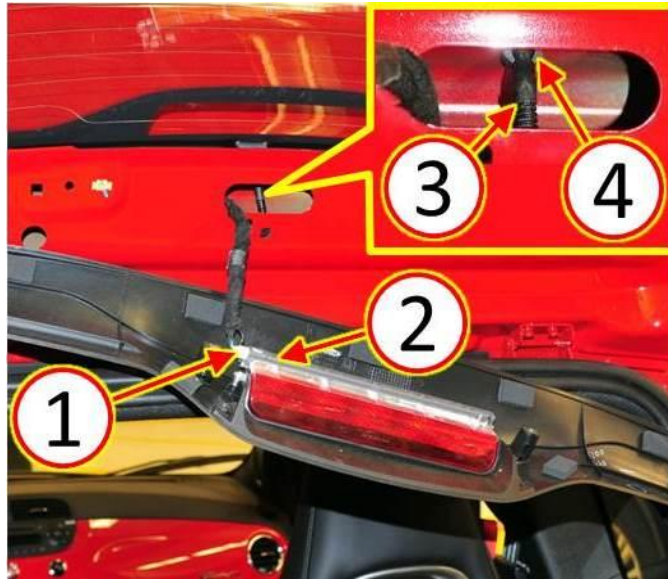

Fig. 3 Disconnect CHMSL Electrical Connector And Washer Fluid Hose
4. Disconnect the CHMSL electrical connector (1) from the CHMSL (2) then remove the upper trim panel from the vehicle (Fig. 3).
5. Disconnect the rear window washer fluid hose (3) from the washer spray nozzle (4) (Fig. 3).